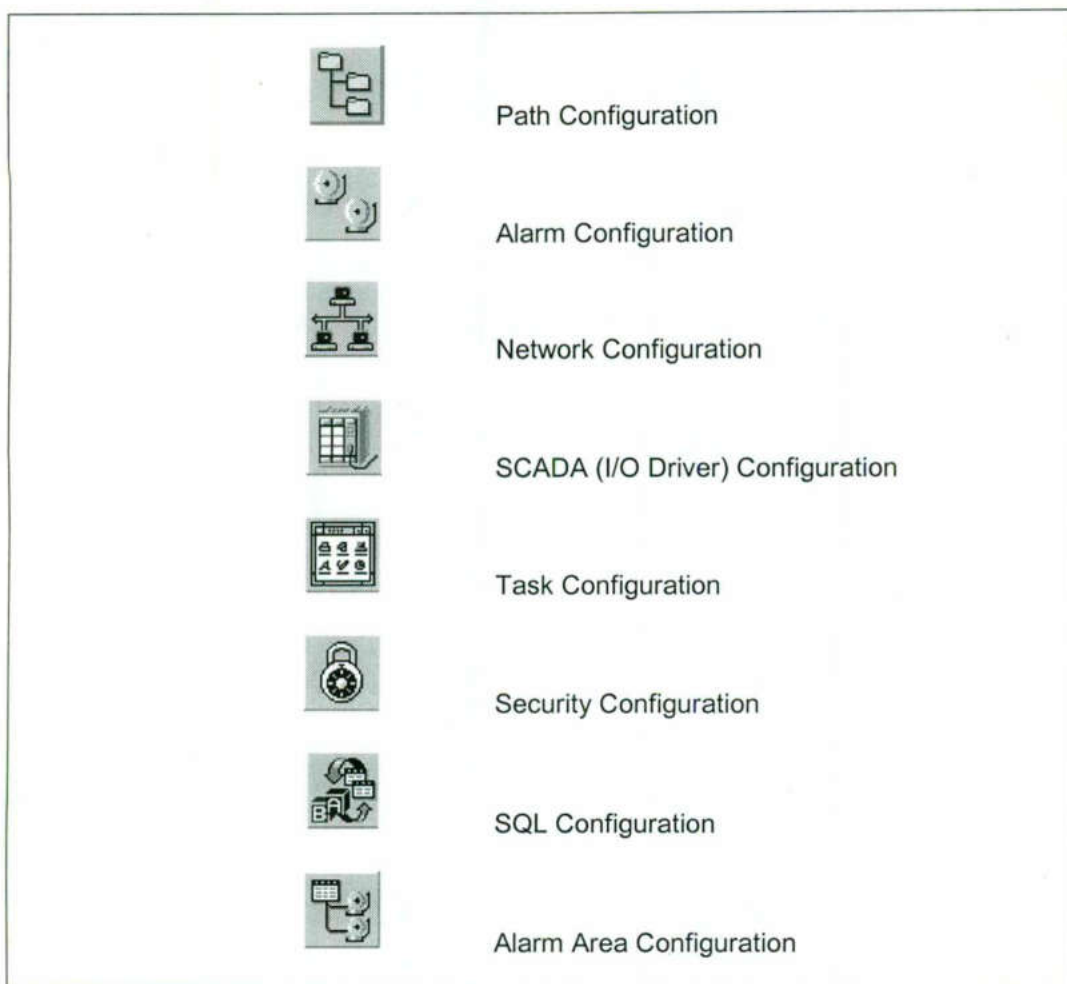
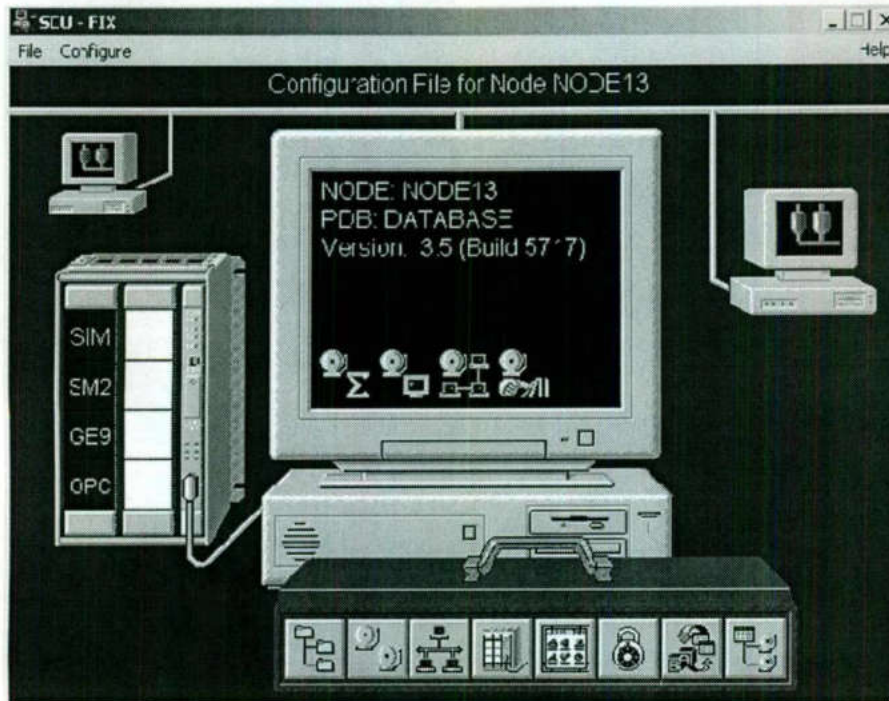

Figura 4-2: Barra de Herramientas System Configuration
Figura 4-3: System Configuration Utility
- vea la figura 4-2 y la figura 4-3